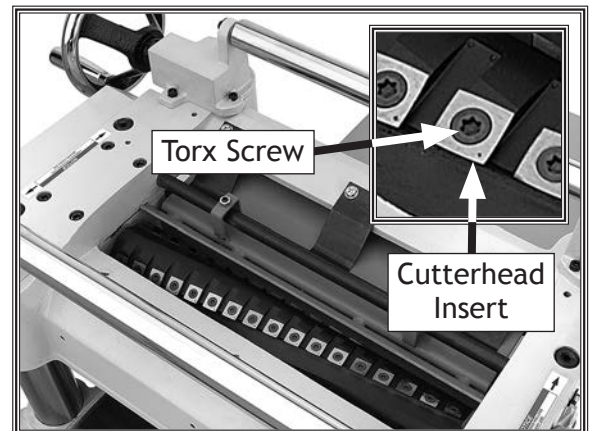

Figure 27. W1863 cutterhead inserts and Torx screws.
4. Remove any sawdust or debris from head of insert, Torx screw, and surrounding area (see **Figure 27**).